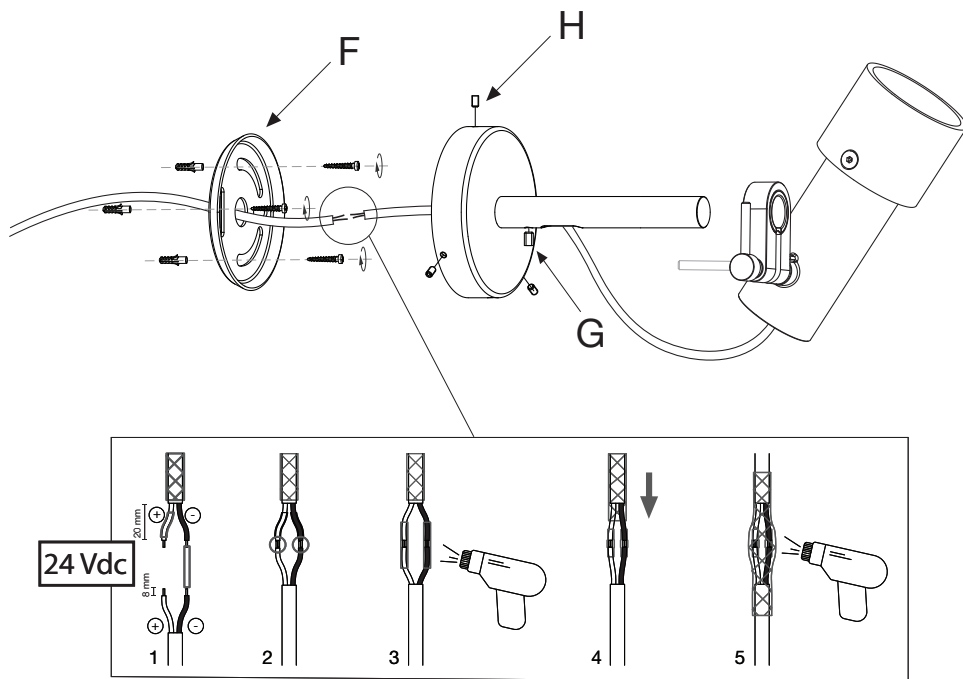

Fig. 5.4.
- 5.4. Make the electrical connections as shown in figure 5.4..